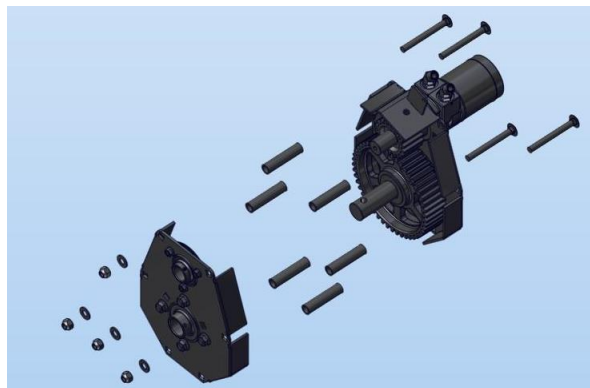

Figure 185
11. Install the left hand gearcase on the input and output shafts. Install spacers on each bolt as the bolts are placed in the right hand gearcase. Make certain the gears are aligned and tighten the lock collars. Figure 185